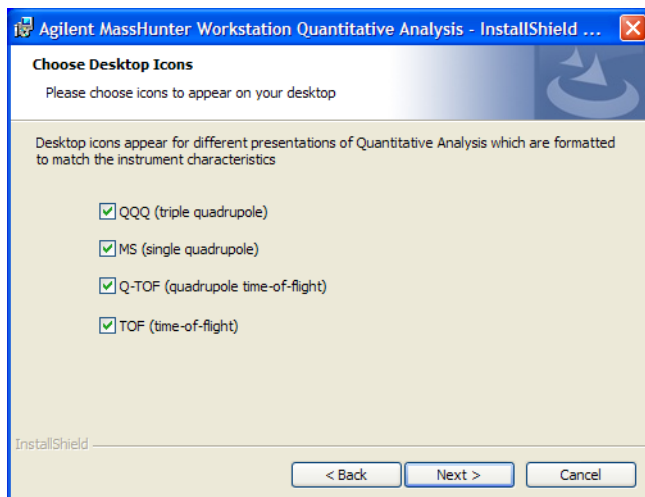

Figure 21 Choose desktop icons window
- i When the Choose Desktop Icons window appears, mark the check boxes for the instruments that apply. Clear the check boxes for the instruments that do not apply. Click **Next** (Figure 21).